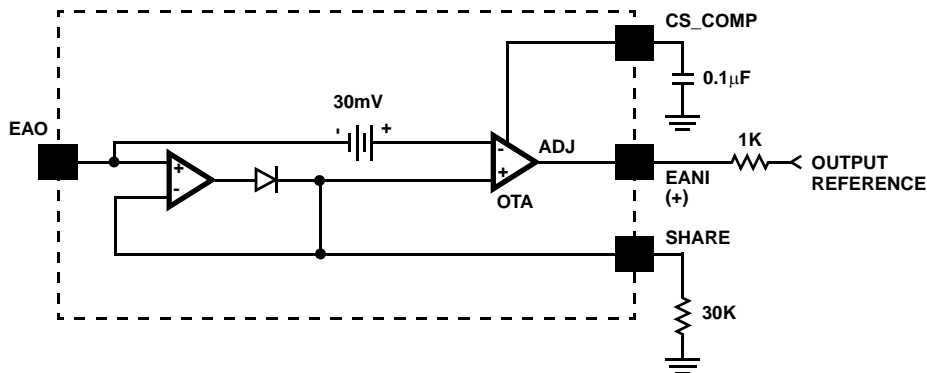

FIGURE 10. SIMPLIFIED CURRENT SHARE CIRCUIT
- The unit with the highest reference is the master. Other units, as slaves, adjust their references via a source resistor to match the master reference sharing the load current. The source resistor is typically 1k Ω connecting the EANI pin and the OUTPUT REFERENCE (external reference or BGREF), as shown in Figure 10. The share bus represents a 30k Ω resistive load per unit, up to 10 units.